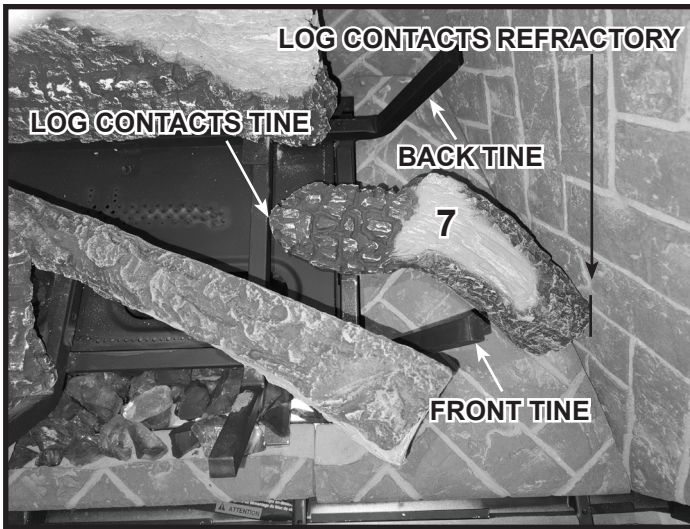

Figure 12
**Log #7 (SRV2281-747 TRUE-42 ONLY):** Place Log #7 into right side of appliance as shown in Figure 12. Right side of log should contact right refractory and burned portion of log should be positioned on grate centered between front and back right side grate tines. The pointed end of Log #7 should contact the grate tine as shown in Figure 12.